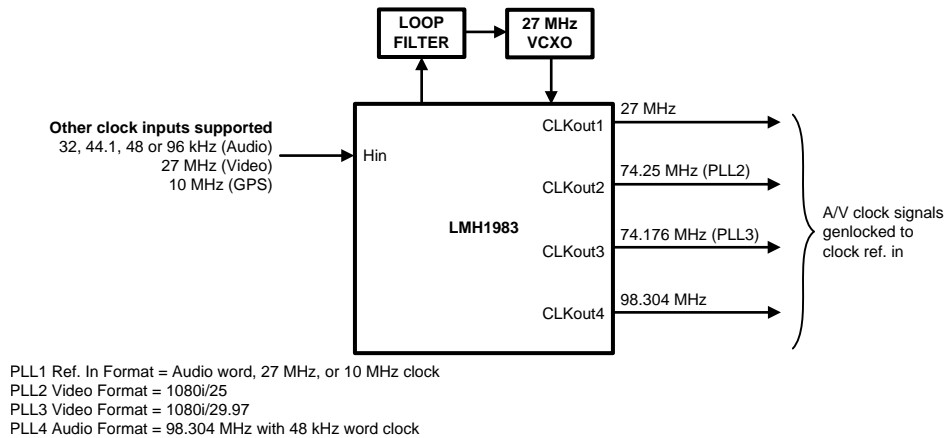

Figure 28. LMH1983 A/V Clock Generation with Non-Format Specific Input Clock Reference
Table 10. Relevant Auto-Format Detection Codes for Figure 28
To ensure correct auto-detection and the correct CLKout signaling desired in Figure 28, the following SMBus register values should be verified or changed from their default values.
**Table 11. SMBus Register Settings for Figure 28**